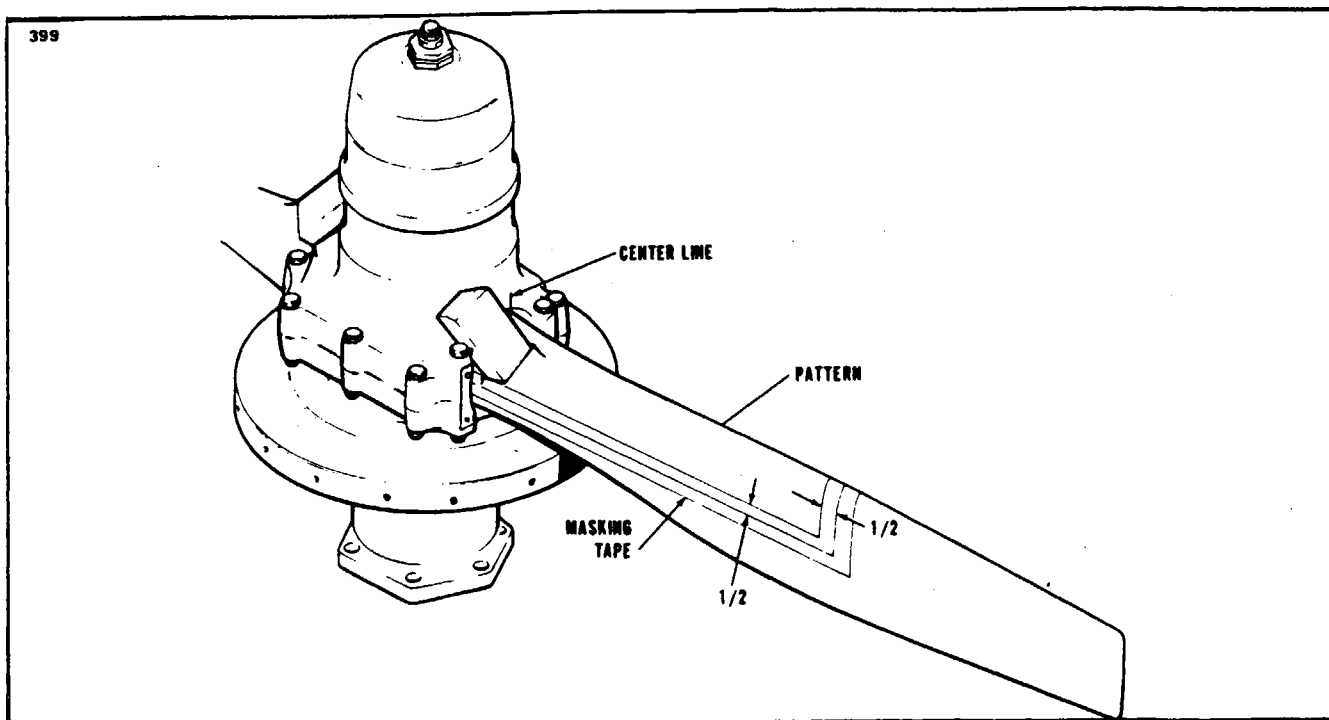

Figure 14-19. Installation of De-Icer Boot
- a. Mark and cut from masking tape a pattern the size of the propeller De-Icer including the first inch of the lead strap. (Refer to Figure 14-19.)
1. Position the De-Icer on the propeller leading edge, using centerlines starting from the hub. (Refer to Figure 14-19.) Make sure that the strap will fall in the position previously marked. Working towards the tip, tack the de-Icer centerline to the leading edge of the propeller blade. Use tackifying solvent as necessary. If the De-Icer is allowed to get off course, pull up with a quick motion and remove De-Icer. Recement per Paragraph 14-43, c and d if necessary before proceeding. Roll firmly along the centerline with a rubber roller, as shown in Figure 14-19.